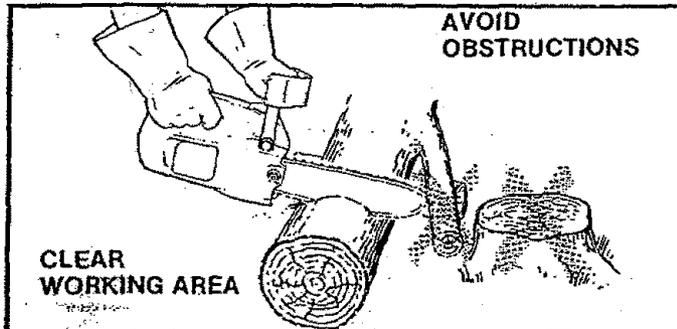

Figure 21
- Keep the working area free from obstructions such as branches, rocks, fences, stumps, etc. Figure 21. Eliminate or avoid any obstruction that the chain could hit while cutting through a particular log or branch.